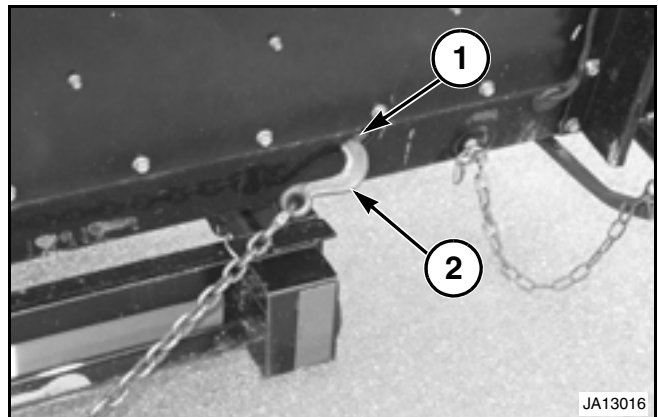

FIG. 9
FIG. 9: One lower outer end rear tie-down (1) is located at the right-hand and left-hand outer ends of the lower frame. Insert the hook (2) into the lower frame slot as shown in the figure.